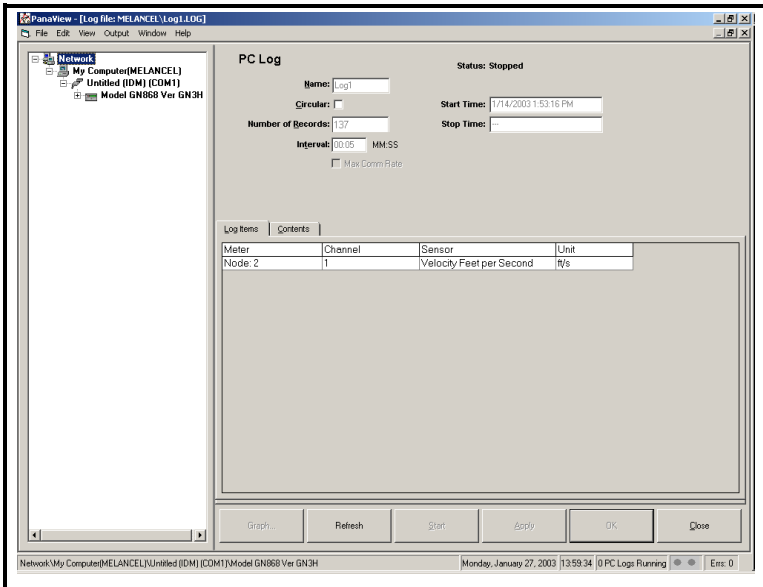

Figure 6-25: The PC Log Window
6. At the resulting “PC Log” window shown in Figure 6-25 below, place a check mark in the text box to create a *circular log*, or leave this box empty to create a linear log.
7. Enter a sampling *interval* in the text box shown in Figure 6-25 on page 6-24, or check “*Max Comm Rate*” to sample data at the fastest speed allowable by the system (1 sec).
- Click on the “Log Items” tab (see Figure 6-25 on page 6-24) for a list of the parameters specified for logging.
- Click on the “Contents” tab (see Figure 6-25 on page 6-24) for a list of all the data points logged to date for the parameter currently highlighted on the “Log Items” tab.